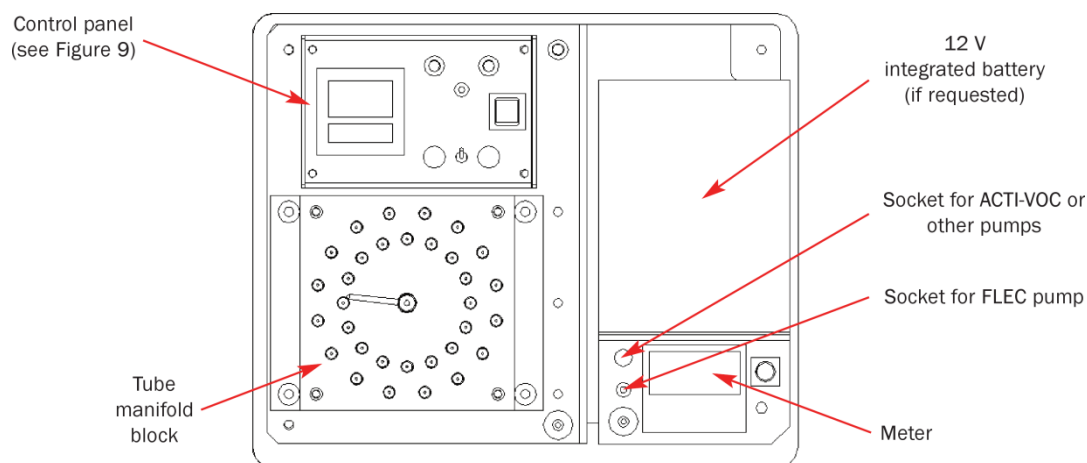

**Figure 6:** Plan view of MTS-32 (inside box).
Constant-flow pumps from other manufacturers may be used, and a general-purpose pump socket is provided (Figure 6). However, Markes International should be consulted for advice regarding power and connection details, before you connect the pump.
Connect the power inlet of the ACTI-VOC to the connection shown (Figure 6), using the cable (MTS-5019).
Connect the power inlet of the FLEC pump to the connection shown (see Figure 6).
**Note:** The current being drawn by the pump (displayed on the meter, see Figure 6) will vary depending on the FLEC pump pulse rate. This, in turn, will vary depending on the tube impedance and required sample flow rate.